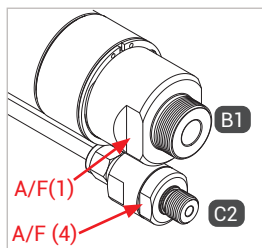
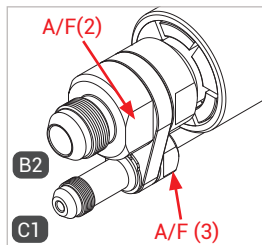

Figure 3
Figure 4
- ▶ When mounting the filling and venting hose, the media line and the gas recirculation onto ports "B1", "B2", "C1" and "C2", hold an open-ended wrench against the wrench flat AF(1), AF(2), AF(3) and AF(4) (Figure 3 and Figure 4).
- ▶ Connect the media inlet "B1" to the media hose line of the fueling station (Figure 3) in a pressure-tight manner. See the table below for information regarding tightening torque.
- ▶ Connect the gas recirculation "C2", if provided, to the gas recirculation of the fueling station (Figure 3) in a pressure-tight manner. See the table below for information regarding tightening torque.
- ▶ Screw the media outlet "B2" onto the connection port of the filling hose (Figure 4) in a pressure-tight manner. For the tightening torque, please refer to the table below.
- ▶ Screw the gas recirculation "C2", if provided, onto the connection port of the venting hose (Figure 4) in a pressure-tight manner. For the tightening torque, please refer to the table below.